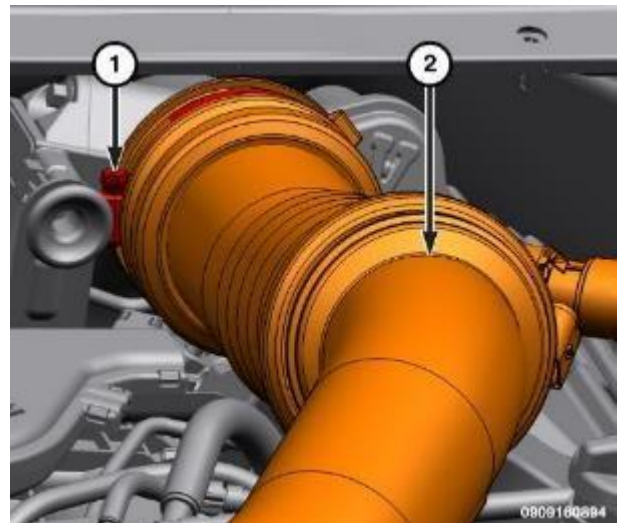

Figure 75 – Clean Air Hose
- 127. Install the clean air hose (2) to turbocharger and securely the tighten clamp (1) (Figure 75).